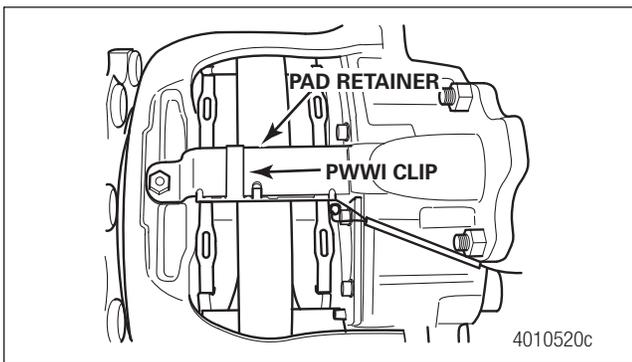

Fig. 6.20 PWWI Assembly Installed
- a. If a new PWWI is to be installed, position the pad wear cable correctly and carefully clip the pad wear warning cable retainer to the pad retaining plate. Figure 6.20.